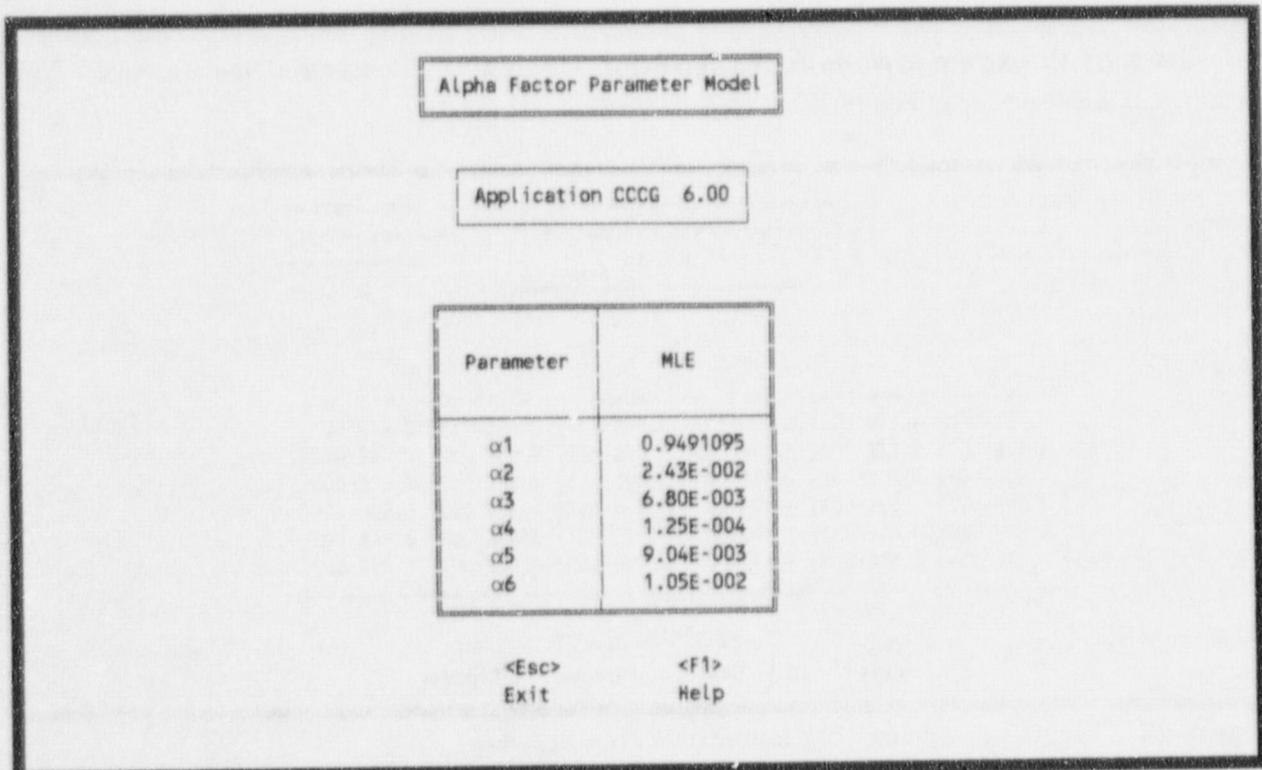

Figure 23. Generic—Alpha-Factor Model Point Estimate screen.
3.4.1.1 **Point Estimate.** The Alpha-Factor Model Point Estimate screen (Figure 23) provides the following functions: